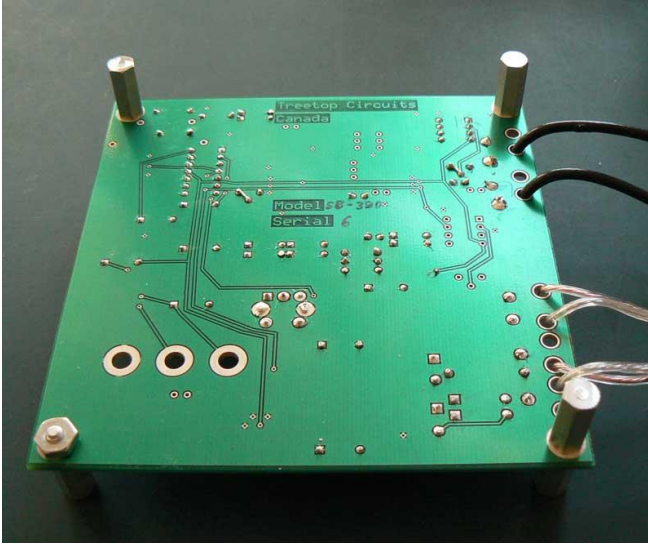
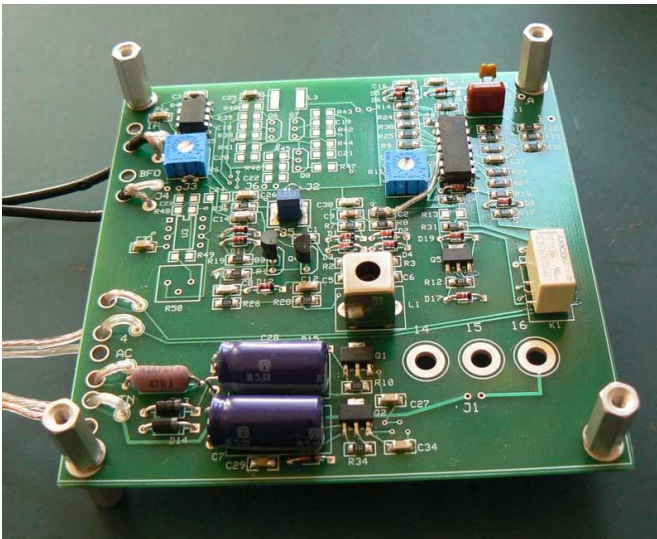

Fig. 4A Modified standoffs on underside
Fig. 4B Standoffs on top side
2. Open Bag 2. Loosely assemble the standoffs and associated hardware as shown in *Fig. 4A* and *Fig. 4B*. The modified standoffs (*Fig. 4A*) provide support in case excessive pressure is applied to the adapter. The standoffs in *Fig. 4B* support the cover plate.